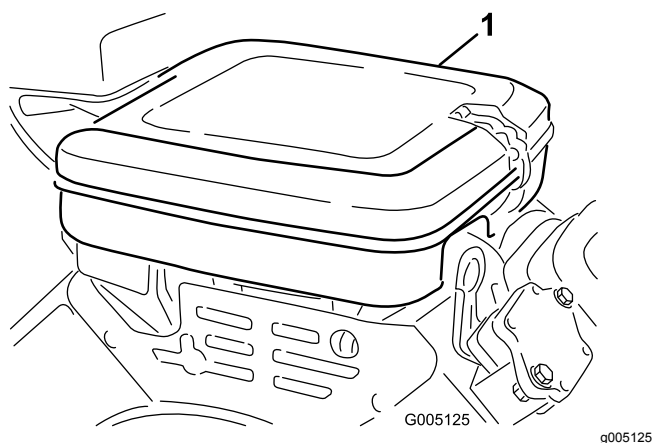

Figure 35
1. Clean the air-cleaner cover (Figure 35).